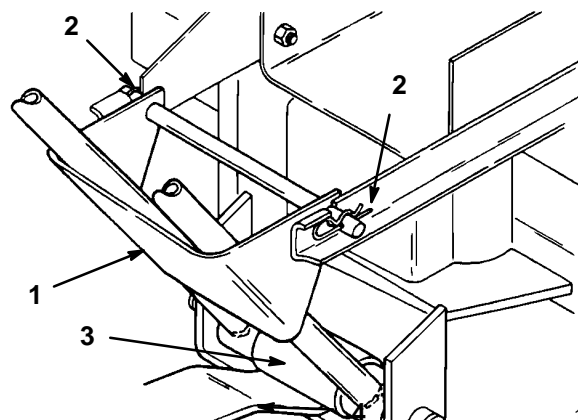

Figure 31
4. Remove (2) hair pin cotters from holes in rod of quick-attach bracket (Fig. 31).
5. Remove the quick-attach bracket from the notches in the support brackets on the tractor frame and the drawbar hitch (Fig. 31).